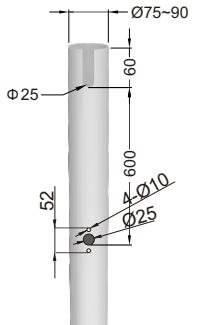

Figure 3-1
- 1 Fit the solar engine and LED lamp position to suit sunlight and road conditions. Mark the position on the pole. In line with this mark, about 60mm from the top of the pole, cut a U-shaped hole with a width of 25mm for the cables to pass through. At approximately 600mm below the U-shaped hole, drill a circular hole $\text{Ø}25\text{mm}$ diameter, for the waterproof wires to pass through. (See Figure 3-1)